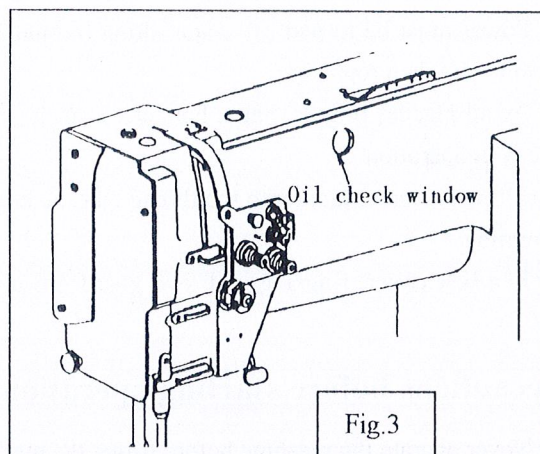

Fig. 3
3. Condition of oil lubrication (Fig.3):